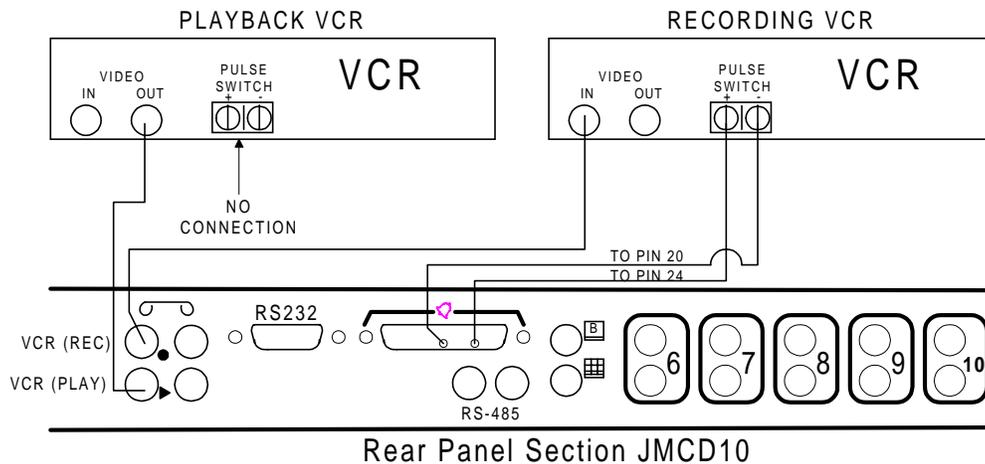

Figure 3.1 Connecting Two VCRs For Duplex Recording and Playback - JMCD10
- 3.2 Duplex recording and playback is achieved by installing two (2) VCR's -- one for playback of a previously recorded tape and one for recording of live action video. This allows for viewing tape of an incident without losing any activity currently being recorded. Playback will be on monitor "A". The playback VCR has no connection to the multiplexer for the head switch pulse. See figure 3.1 or 3.2 depending on model.